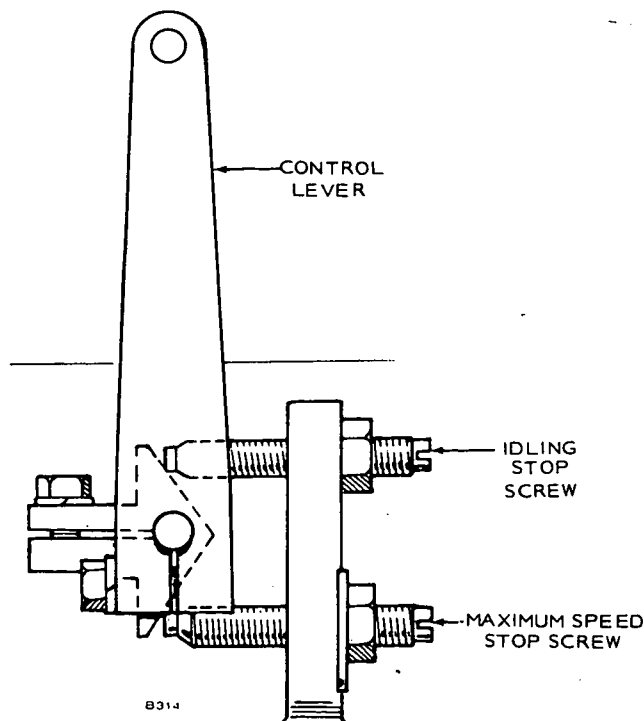

FIGURE 25. GOVERNOR SPEED ADJUSTMENT
1. Loosen lock nuts on idle stop screw and maximum speed stop screw. Refer to Figure 25.